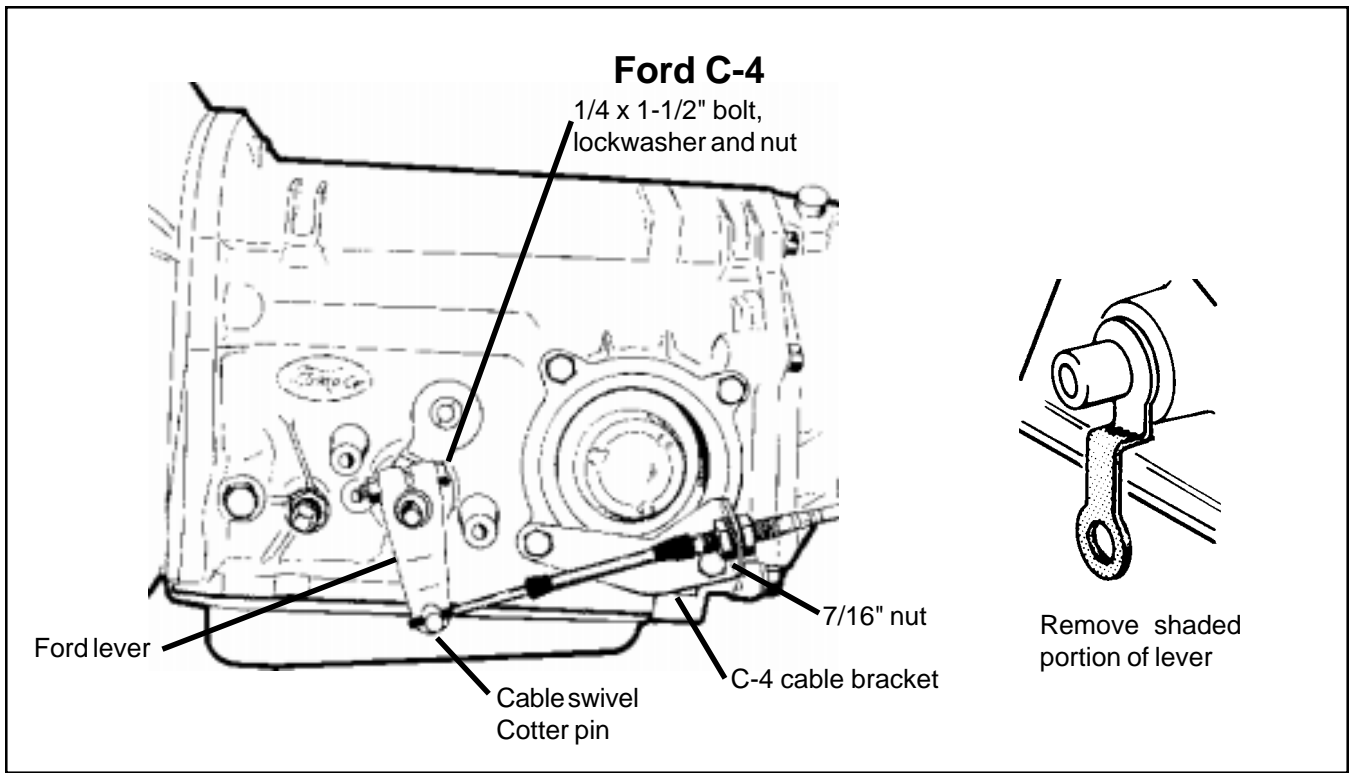

Figure 5
linkage to hang free. Most C-4 and C-5 transmissions have a Neutral safety/Backup light switch on the transmission shift lever. If your transmission is so equipped, remove the two bolts holding the switch in place and slide it off the shift shaft. Disconnect the switch at the factory plug and discard it. You will need to connect the Neutral safety switch and backup light switch wiring that is in this wiring harness to the switches on the shifter. **STEP 3.** Install the **B&M** selector lever, (**See figure 5**). Note: The B&M lever must point downward for proper operation. If the stock shift lever on your transmission points down, you will have to remove the lower part of the stock arm by cutting it off to clear the **B&M** lever, (**See figure 5**). Install **B&M** selector lever onto shift shaft of transmission. Align selector lever so when it points straight down it travels equal arcs in both directions from center, then tighten 1/4"-20 x 1 1/2" pinch bolt and nut. The lever should travel smoothly from front to back with a positive click in each gear position. Make sure O-ring is in position on downshift shaft and install downshift lever in position on shaft. Install lockwasher and nut and tighten securely. Downshift lever must operate
**STEP 4.** Cable bracket installation: Remove the two lower bolts from the rear servo cover. Install cable bracket in position, (**See figure 5**). Install two servo cover bolts as removed and tighten 12-13 lb-ft. Do not over tighten as this can distort servo cover.